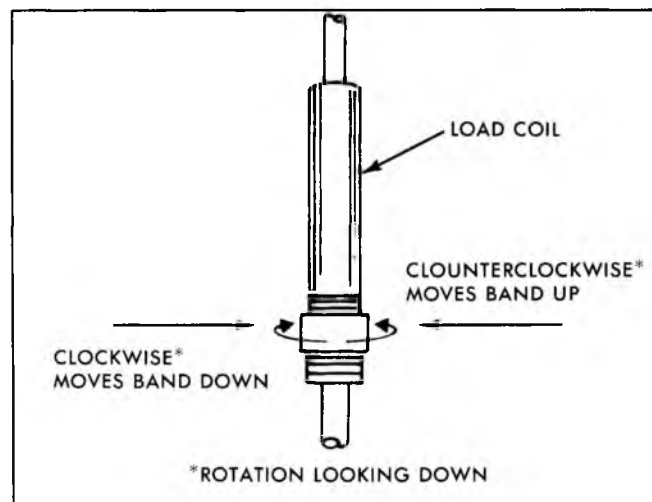

Fig. 9-17R--Adjusting Load Coil
1. Using the readings observed in Step 5 under "SWR Check", determine which way to turn the load coil adjusting band as outlined below (refer also to Figure 9-17R):
-- **Channel 1 higher than channel 40** --Adjust band lower by turning it clockwise (CW).